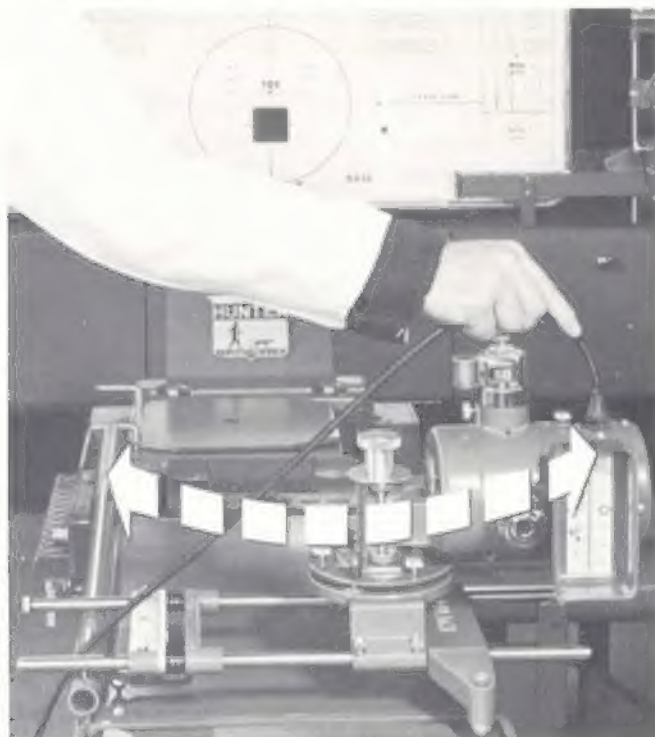

FIGURE 16
8. **TO CHECK ONE PAIR OF THE FOUR TOE LIGHT BEAMS:** Use the same marked spot that was made in above operations. Holding cord as in Figure 16, slowly and carefully swing the projector head **180°** so that **opposite light beam** crosses on the mark.